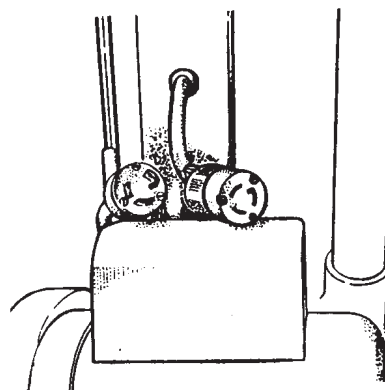

Figure 7
5. Connect the handle pigtail to the motor cord. Align ground pin, insert and twist. See figure 7.